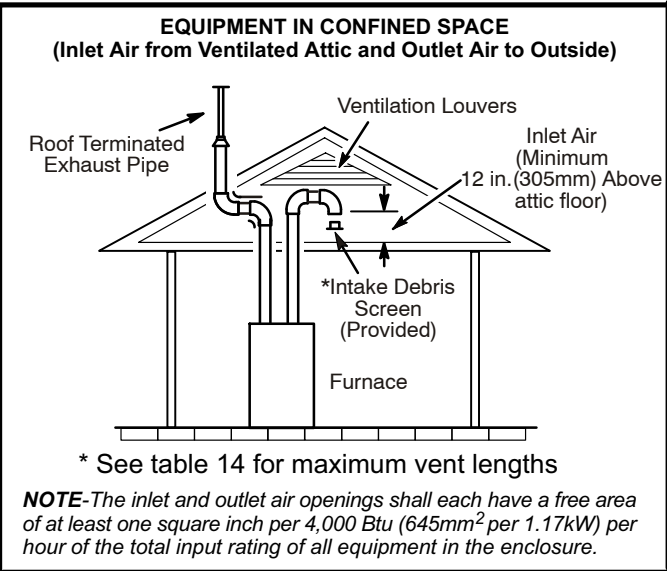
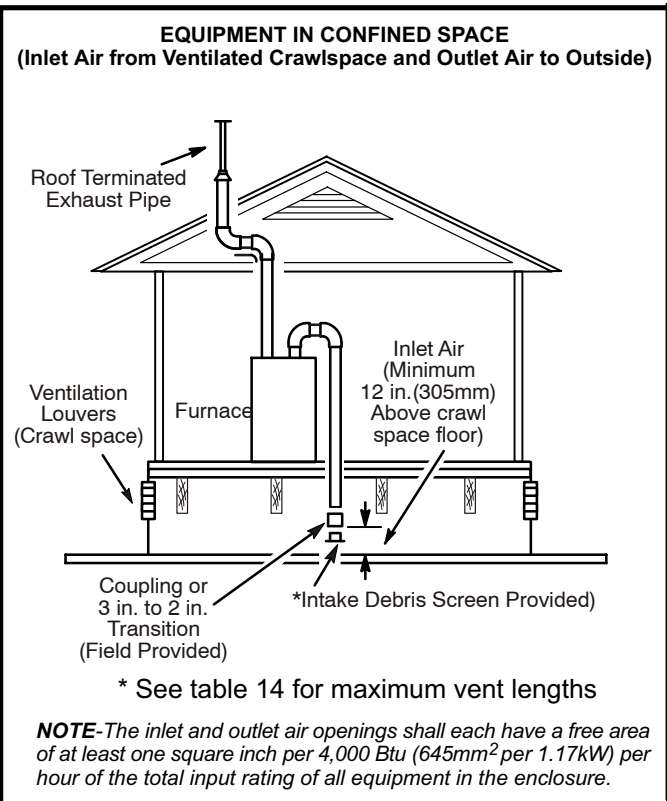

FIGURE 29
FIGURE 30
- 2 - If intake air is drawn from a ventilated attic (figure 29) or ventilated crawlspace (figure 30) the exhaust vent length must not exceed those listed in table 15. If 3" diameter pipe is used, reduce to 2" diameter pipe at the termination point to accommodate the debris screen. Use a sheet metal screw to secure the intake pipe to the connector, if desired.